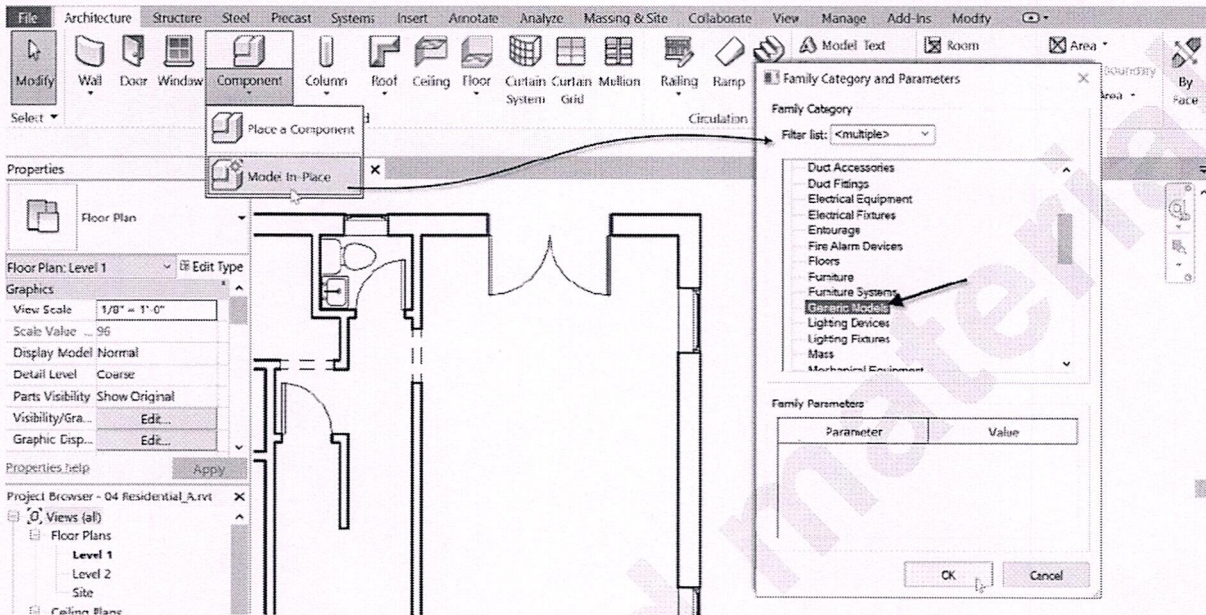

FIGURE 4.59 Create an in-place family and choose its category
- ⇒ In the “Family Category and Parameters” dialog, choose: **Generic Models**, and then click OK (see Figure 4.59).